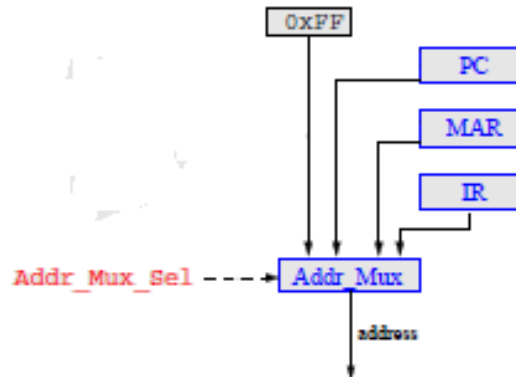

Figure 5: Implementation of a Simple Multiplexer
- 2.7. Implement the multiplexer program that you developed in the Prelab, as shown in Figure 5. To test the multiplexer we need to hard wire (in Verilog) RST_ADDR to 0xFF, PC to the address 0x0A, and MAR to 0x10. Connect IR to the 8 DIP switches, and MEM_SEL to the 2 push-button switches on the board.